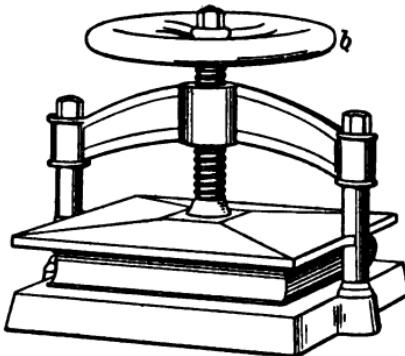

FIG. 91
4. *The Screw*. Fig. 91 shows how the screw may be used to gain intensity of *force*. Here the rate of gain is as the circumference of the wheel *b* to the distance